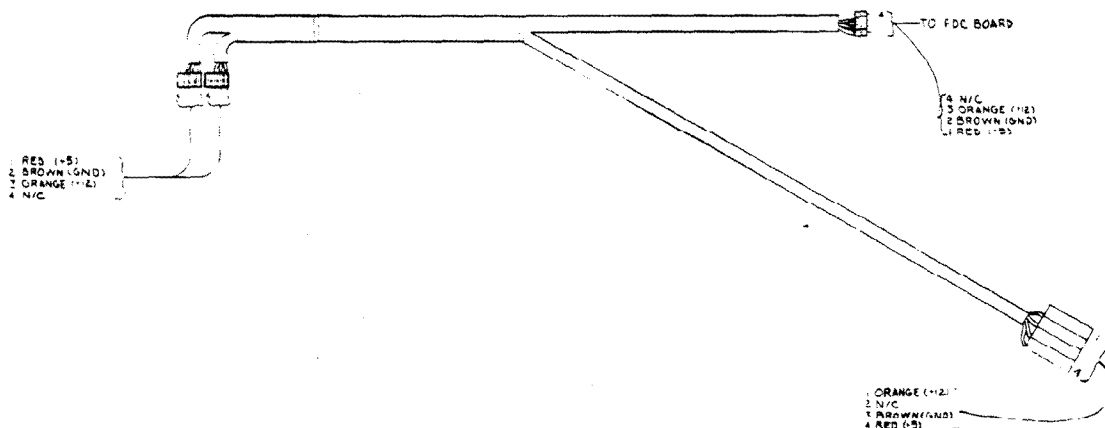

FIGURE 2. DISK DC POWER HARNESS
3. Attach the appropriate connector of the Disk DC Power Harness (see Figure 2) to J3 on the FDC Board.